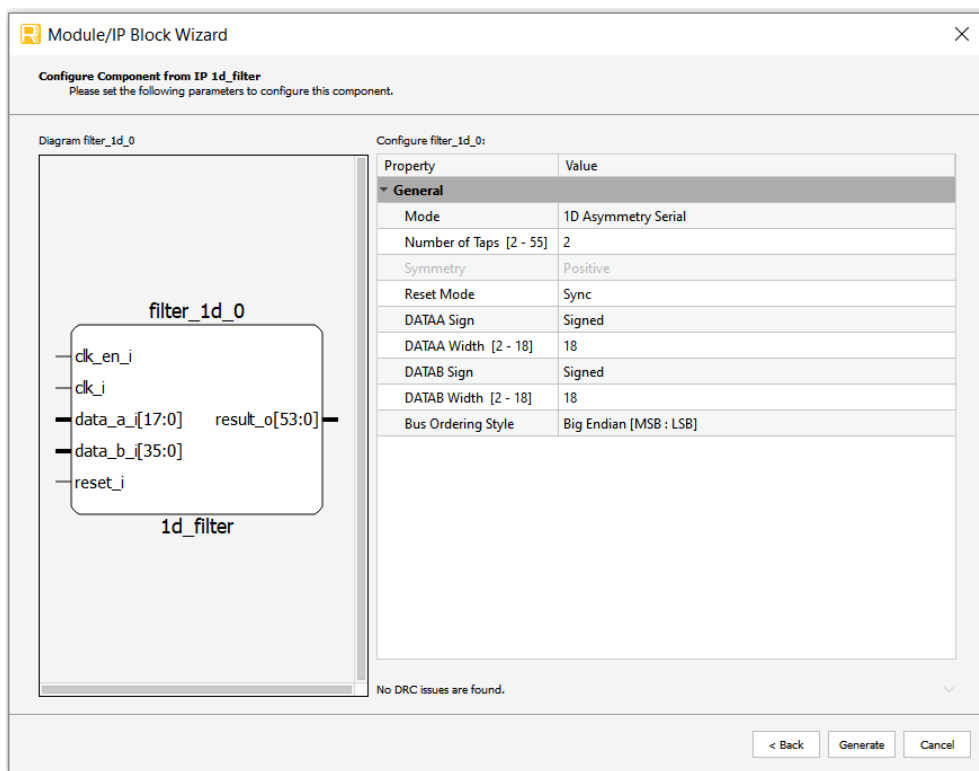

Figure 3.2. Configure User Interface of 1D Filter Module
- In the module's dialog box of the **Module/IP Block Wizard** window, customize the selected 1D Filter Module using drop-down menus and check boxes. As a sample configuration, see Figure 3.2. For configuration options, see the Attribute Summary section.